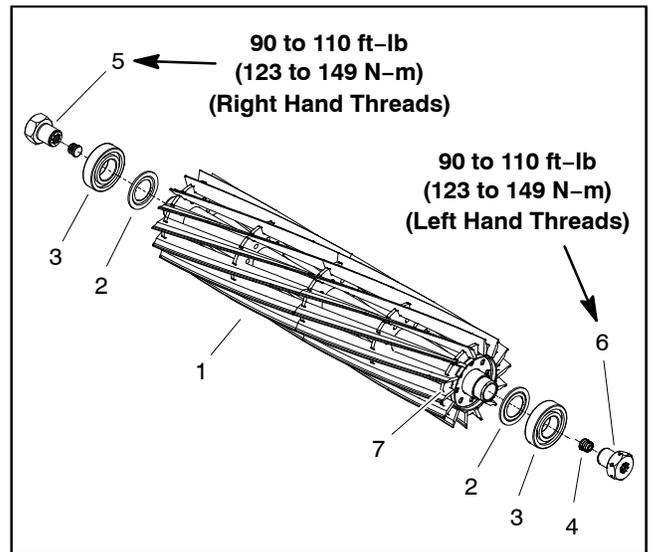

Figure 25
5. Loosen the reel nuts (Fig. 25):
IMPORTANT: The reel nut on the left end of the cutting reel has a black finish and has left-hand threads. The reel nut on the right end of the cutting reel has a silver finish and has right-hand threads (Fig. 25).
9. Tighten the reel nuts (Fig. 25):